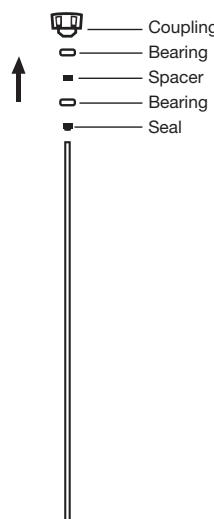

Figure 22
12. Remove coupling, bearings, bearing spacer, and secondary seal from drive shaft (see Figure 22).